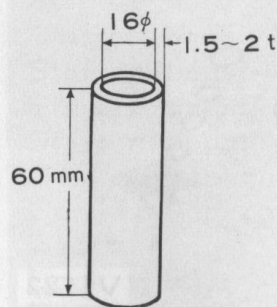

Fig.6-12 Starter Clutch Removal
12. Remove the pinion stopper collar from the end of the armature shaft, and remove the starter clutch assembly. Use a suitable pipe as illustrated in figure 6-12 to remove the pinion stopper collar toward the clutch side first, then remove the snap ring, and the stopper collar with the starter motor assembly.